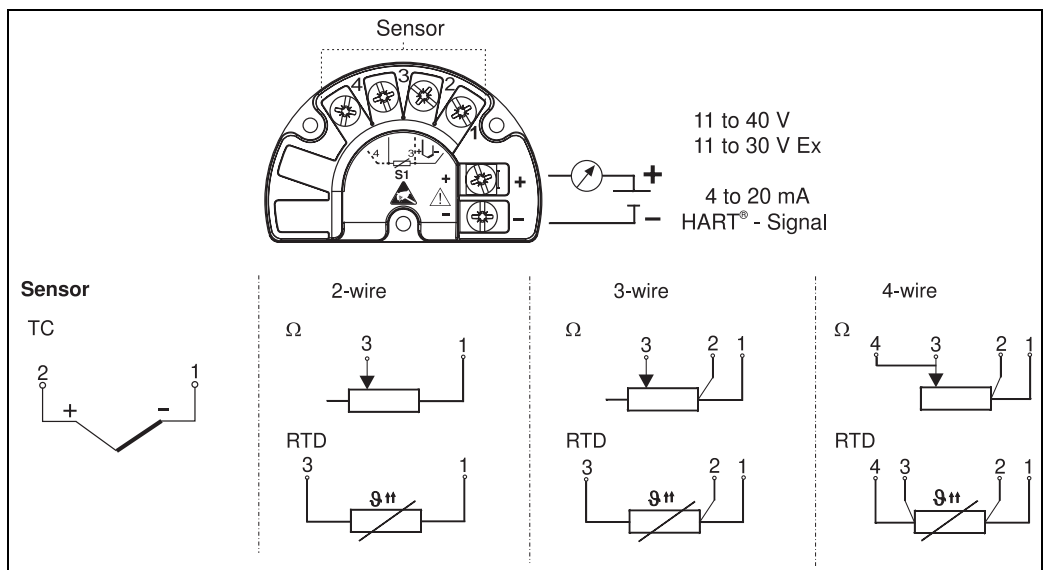

Fig. 5: Wiring the field transmitter
7. Connect the wires (→ Fig. 5).
Have the cables been correctly connected? Compare with the connection schematic on the terminals or → Fig. 5.	See connection schematic on the housing